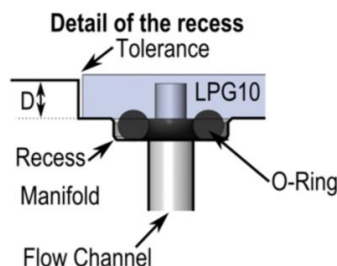

Figure 2: Detail of the recess design. D is the depth of the recess.
- The depth of the glass chip recess  $D$  is 1.35 mm, see Figure 2.